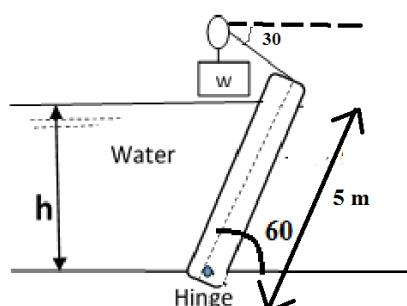

Figure 2
b) A rectangular gate 5 x 2 m is hinged at its base and inclined at 60° to the horizontal as shown in Figure 2. To keep the gate in stable position a counter weight of 50 kN is attached at the upper end of the gate. Find the depth of water at which the gate begins to fall. Neglect the weight of gate and friction at the pulley and hinge.	10